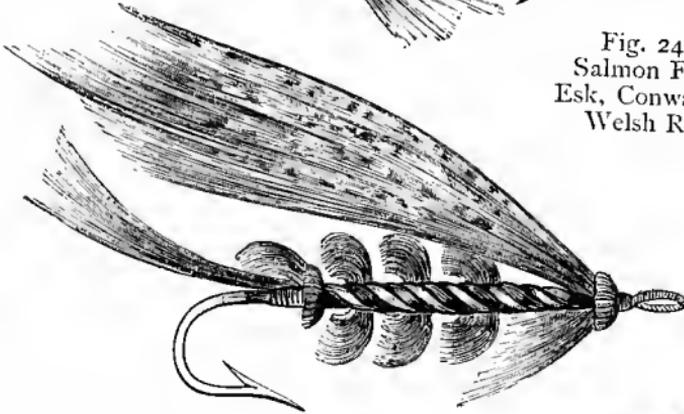

Fig. 251.—
*The Toppy* (Fig. 251).—"Ephemera" gives the following dressing: The wings are to be put on so that they project like blades of scissors slightly opened; body, black pig's wool or bullock's hair, slightly ribbed with golden or silver tinsel; tag, crimson silk or mohair; next to it, two turns of red hackle, black hackle up the body; tail, yellow mohair picked out; wings, black feather from turkey's tail, tipped with white; head, crimson mohair.